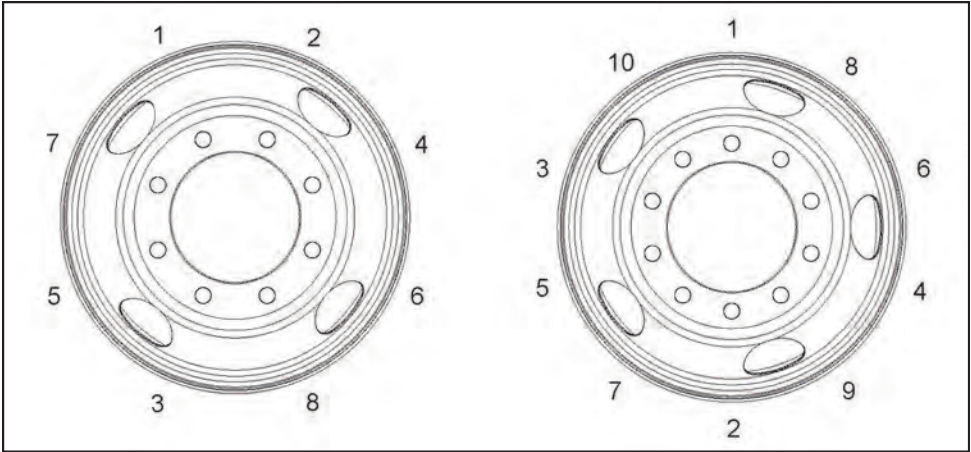

Figure 16. Disc Wheel Installation
4. Tighten nuts fully, using a crossing pattern as shown above in (Figure 16). Be sure to tighten nuts only to the recommended torque. For correct wheel lug nut torque see page 77.